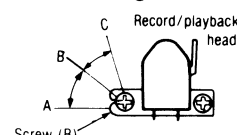
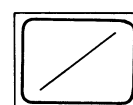

Fig. 3
Fig. 6
2. Playback the 8kHz signal from the test tape (QZZCFM). Adjust screw (B) in fig. 3 for maximum output L-CH and R-CH levels. When the output levels of L-CH and R-CH are not at maximum at the same point adjust as follows.
3. Turn screw (B) shown in fig. 3 to find angles A and C (points where peak output levels for left and right channels are obtained). Then, locate angle B between angles A and C, i.e., and point where L-CH and R-CH outputs are balanced. (Refer to fig. 3 and 4.)
5. Playback the 8kHz signal from the test tape (QZZCFM). Adjust screw (B) shown in fig. 3 so that pointers of the two VTVMs swing to maximum and a lissajous waveform as illustrated in fig. 6 is obtained on the oscilloscope.